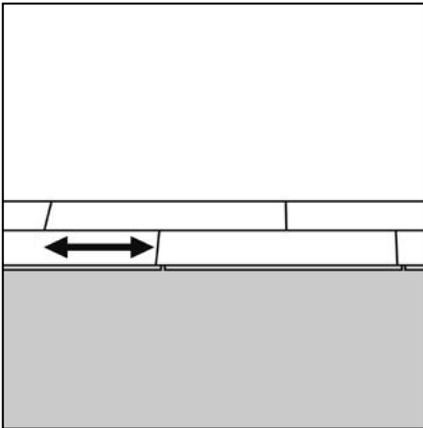

Figure 26 Stagger the short joints
- ▶ Insert the upper male profile of the long side of the plank into the corresponding lower profile of the long edge of the plank in the previous row, at a slight angle. Press down until it locks into place. Always try to stagger the short joints approx. 150mm from the nearest short joint in the previous row; (fig. 26). Do not forget to include the required expansion gap to the wall.